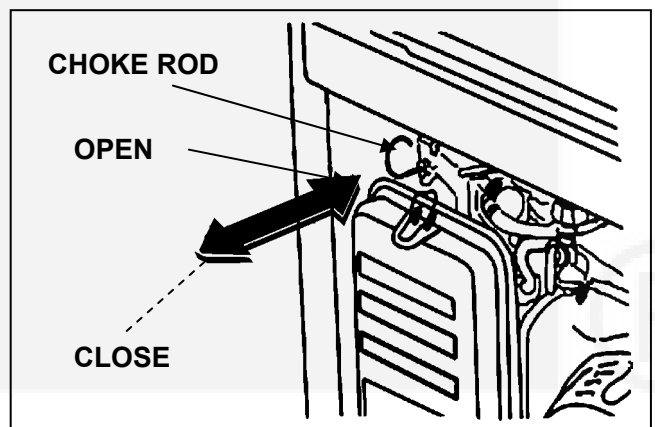

FIGURE 5. CHOKE ROD
2. Pull the choke rod out to close the choke if the engine is cold (Figure 5).